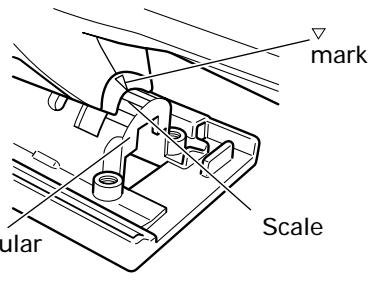

Fig. 16
- (2) Align the scale (from 0 degrees to 45 degrees by 15-degree increments) of the semi-circular part of the base with the [▽] mark on the gear cover. (Fig. 16)